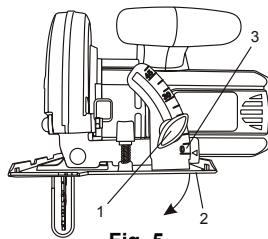

Fig. 5
Loosen the bevel angle locking screw (1) by turning it counter clockwise (Fig. 5).
Set the bevel angle to 0° (Fig. 5).